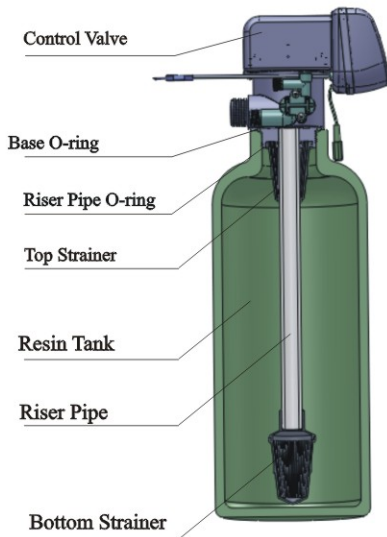

Figure 1-1
- ①The filter or softener should be located close to drain.
- ②Ensure the unit is installed in enough space for operating and maintenance.
- ③Brine tank need to be close to softener.
- ④The unit should be kept away the heater, and not be exposed outdoor. Sunshine or rain will cause the system damage.
- ⑤Please avoid to install the system in the Acid/Alkaline, Magnetic or strong vibration circumstance, because above factors will cause the system disorder.
- ⑥Do not install the filter or softener, drain pipeline in circumstance which temperature may drop below 5°C, or above 50°C.
- ⑦One place is recommended to install the system which causes the minimum loss in case of water leaking.
①Install control valve
- a. As the Figure 1-1 shows, select the riser pipe with 26.7mm OD, glue the riser pipe to the bottom strainer and put it into the mineral tank, cut off the exceeding tube out of tank top opening. Plug the riser tube in case of mineral entering.